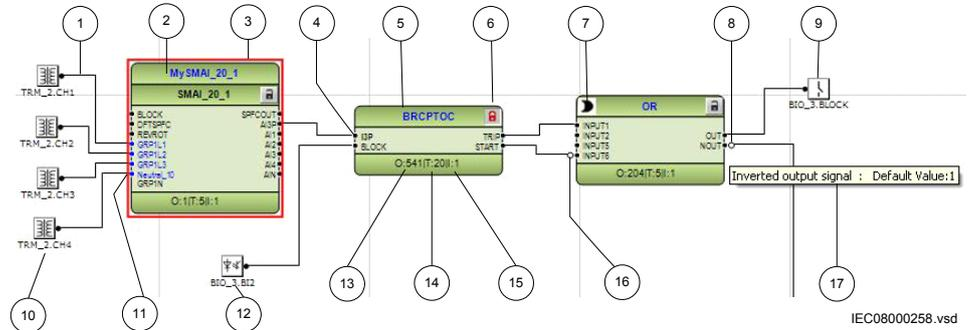

Figure 28: ACT: Function block overview
- Function blocks are the main elements of an application configuration. They are designed for a various number of functions and organized in type groups. The different function block types are shown in the Object Types View. Figure 28 presents an overview of the main parts that are relevant for function blocks.